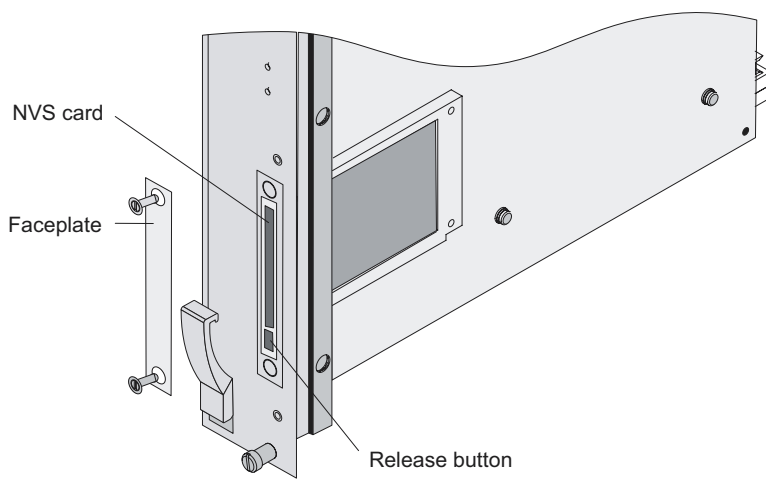

Figure 9-1 NVS card slot on SRP module
- 2 With a small flathead screwdriver, remove the faceplate from the NVS card slot on the SRP module (see Figure 9-1).
- 3 Use the screwdriver to depress the button next to the NVS card (see Figure 9-1).